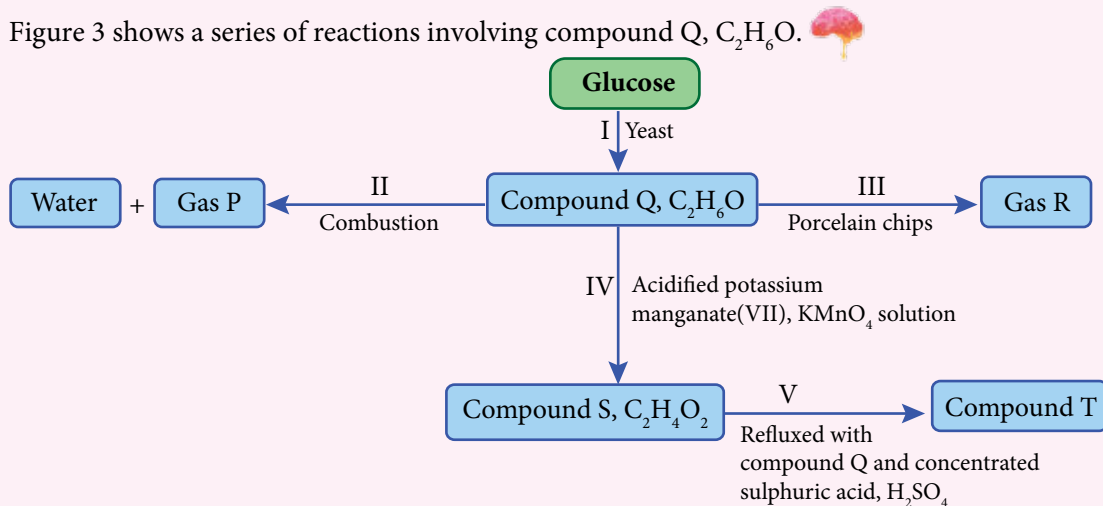

Figure 3
3. Figure 3 shows a series of reactions involving compound Q, C₂H₆O.